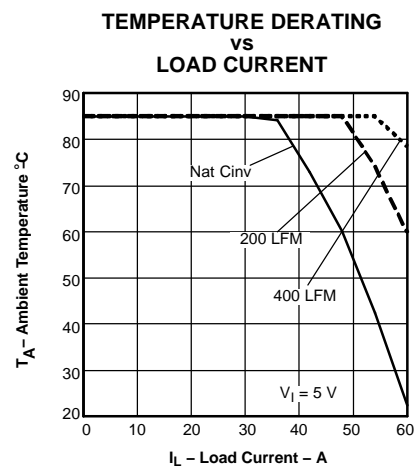

Figure 8.
- (2) SOA curves represent the conditions at which internal components are at or below the manufacturer's maximum operating temperatures. Derating limits apply to modules soldered directly to a 4 inches × 4 inches double-sided PCB with 1 oz. copper. Applies to Figure 8.